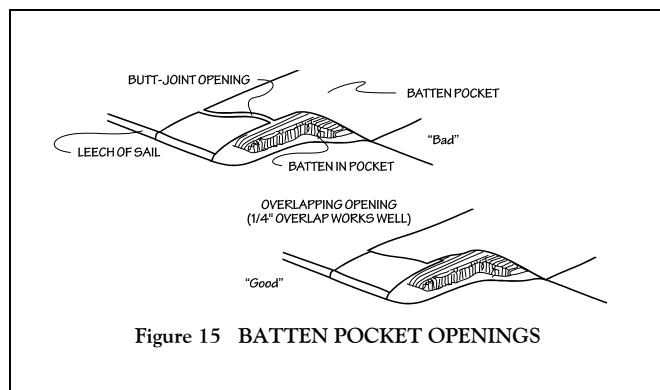

Figure 15 BATTEN POCKET OPENINGS
**Telltails** — You don't need many telltails on the main, and you shouldn't spend much time watching them, because the "backstay rule" (see page 22) should tell you what you need to know about trim. As shown in Figure 15, however, 5-inch telltails about halfway back along the top batten can tell you when flow is beginning to detach from the leeward side of the sail, and ten-inch telltails flying from the top two batten pockets can guide you in mainsheet and vang trim on reaches.
cause a hangup, so you don't want a "butt-joint" batten opening on the top two pockets. Instead, you want an overlapping opening, as shown in Figure 15.